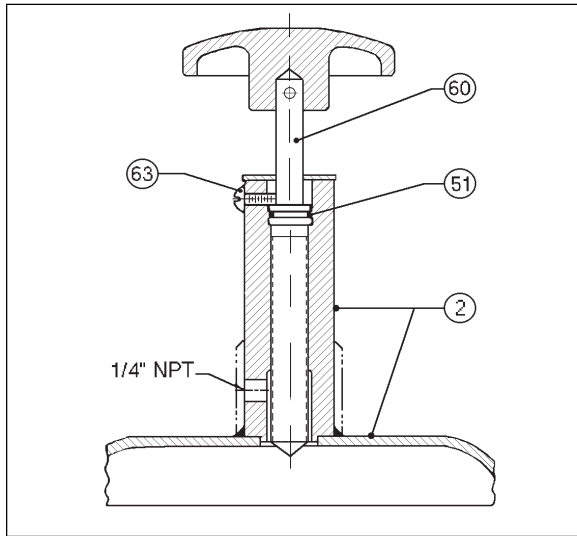

Figure 5: Handwheel Subassembly
1. The 2" Model 2266 utilizes an O-ring type seal. See Figure 5.
- a. Release all air pressure in actuator upper casing (2).
- b. Remove machine screw (63) limiting travel of handwheel subassembly (60).
- c. Rotate handwheel (60) CCW (viewed from above) to removal.
- d. Remove O-ring (51) from handwheel sub-assembly stem (60). Clean assembly (60) in solvent cleaner. Lightly lubricate the O-ring (51) and threaded portion of the stem (60) with lithium grease.